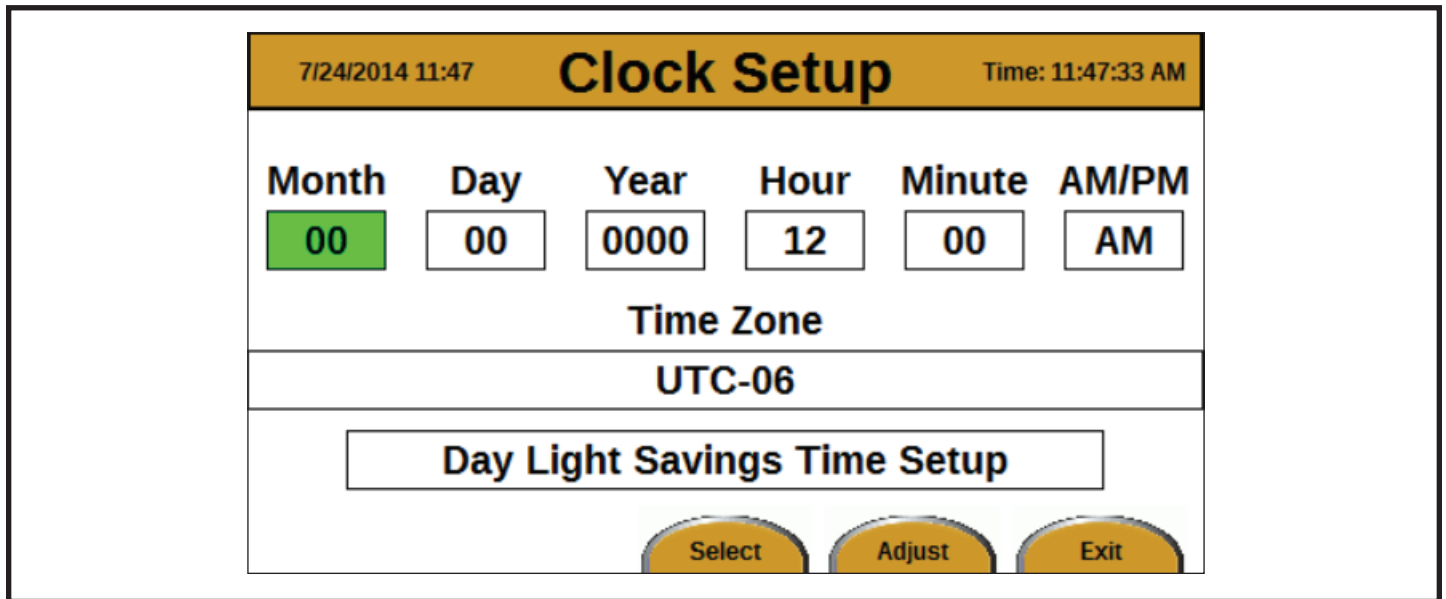

Figure 14
5. Press the Enter button. The Clock Setup screen will appear (see Figure 14).